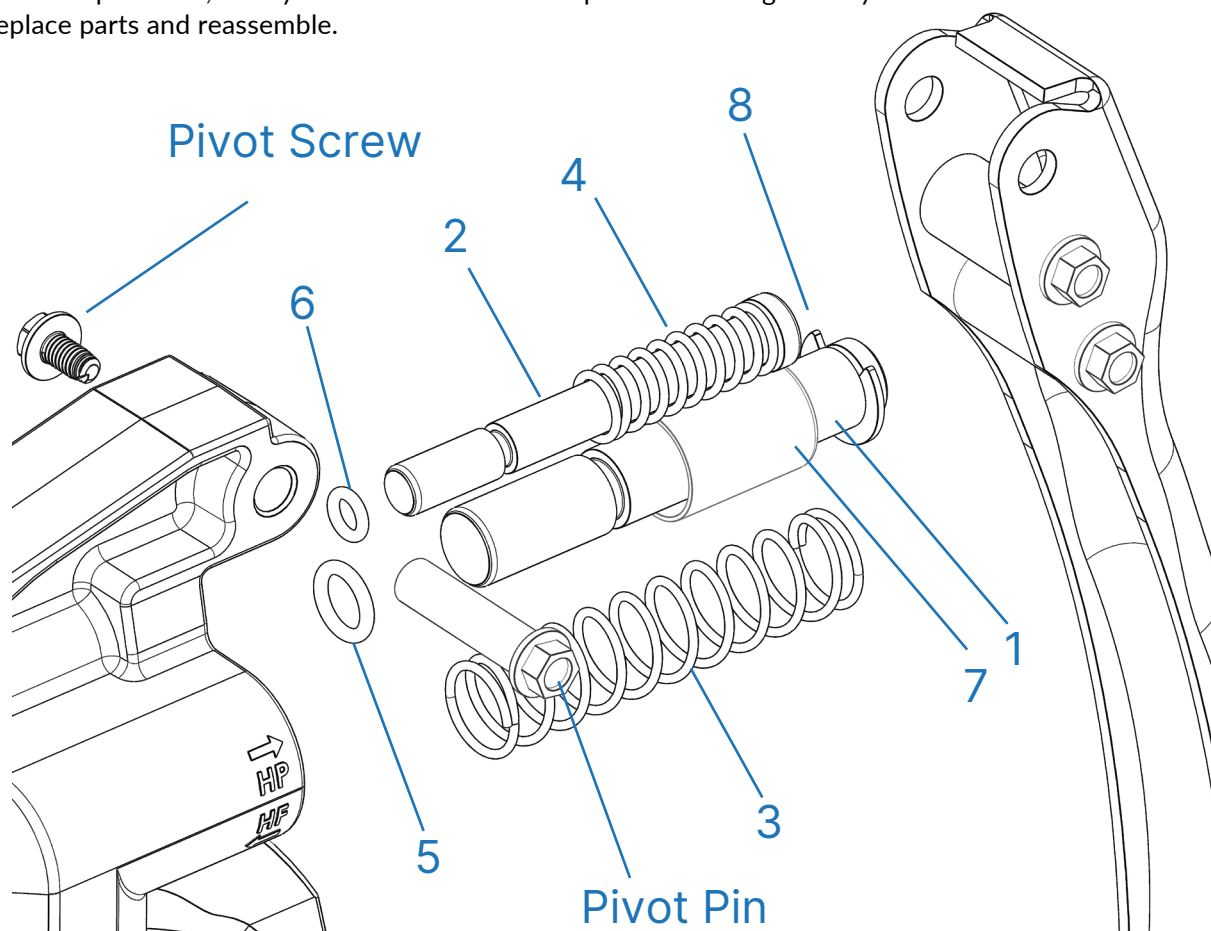

Figure 8
1. Use two 1/4" spanners to remove the pivot screw from the pivot pin as it is shown in Figure 8.